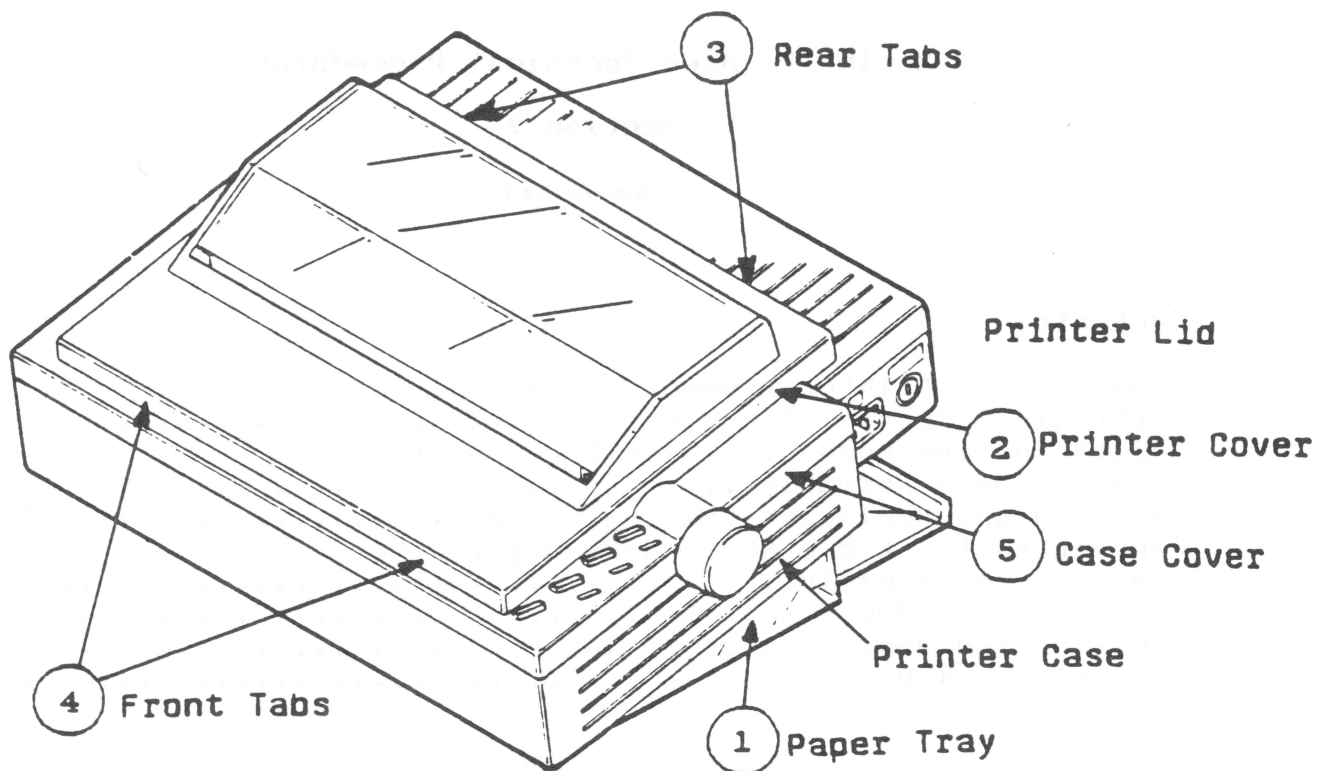

Figure 1
2. Remove any paper from the printer, and lift the printer off the paper tray (Figure 1, #1) (if present).
3. Remove the translucent printer cover (Figure 1, #2) as follows:
- a) Press forward on the back panel of the printer cover and lift it to free the two tabs in back (see Figure 1, #3).
- b) Pull the cover slightly toward the back and up (to free the tabs in front - see Figure 1, #4).
6. Remove the case cover (Figure 1, #5) as follows: